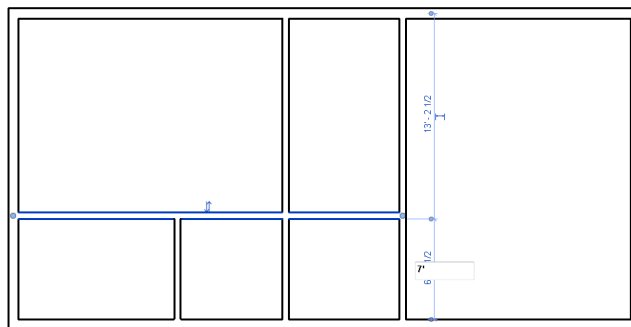

Figure 3-65 Entering the value to adjust the dimension of the horizontal interior wall
6. Now, click on the blue dots of temporary dimension from the lower external wall and the upper interior wall. Enter the value **7'(2134 mm)**, as shown in Figure 3-65, and press ENTER. On doing so, the interior wall is moved to the desired location. Now, press ESC to exit the **Modify | Walls** tab.
This completes the interior wall layout for the *Apartment 1* project, refer to Figure 3-65.